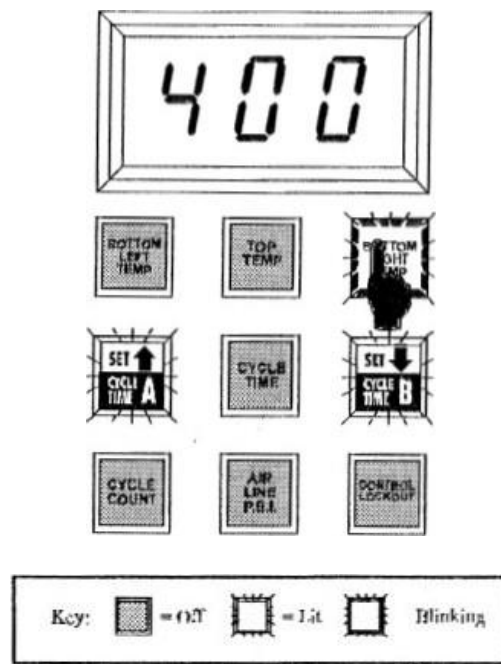

Figure 8-1
- While the control panel is in Monitoring Mode, press and hold the Bottom Right Temp button. After approximately two seconds, the panel's Up Arrow and Down Arrow buttons will light and the Bottom Right Temp button blinks, as shown in Figure 8-1. This puts the control panel in the Set Mode. Release the Bottom Right Temp button. The control panel displays the current setting for the bottom right platen temperature (not the actual temperature, as shown in Monitoring Mode); if the platen is set to off, the control panel displays three dashes.